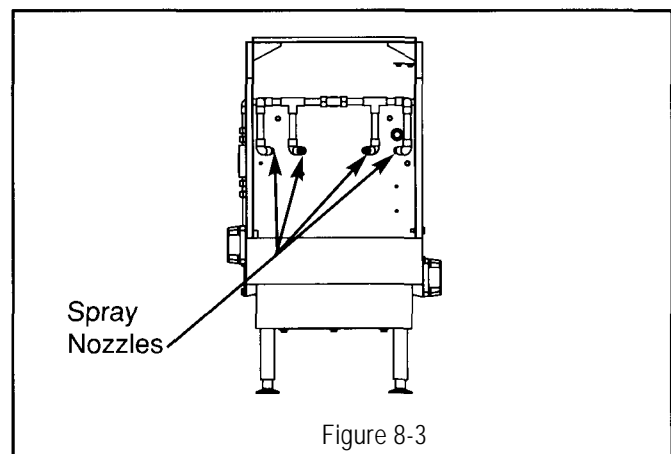

Figure 8-3
5. Remove damaged spray nozzle with socket wrench (remove plastic nozzle only not metal nut) see figure 8-3.